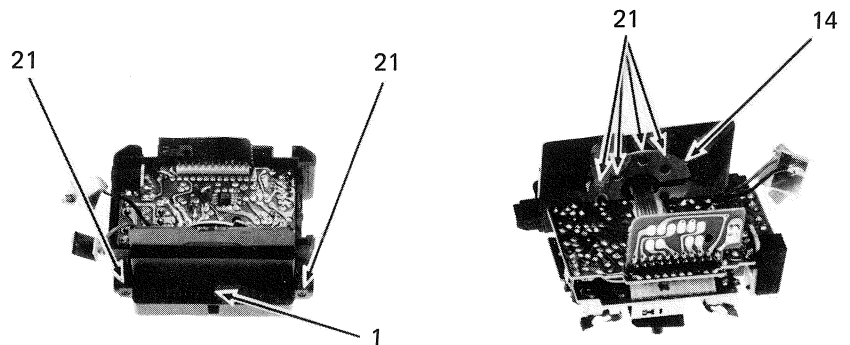

Figure 2-5. Separation of Body Cases MA and MB
- E. Remove two screws (21) on the body case MA (1). Remove four screws (21) on the rotating plate (14). Separate body case MA from body case MB. (Figure 2-5)